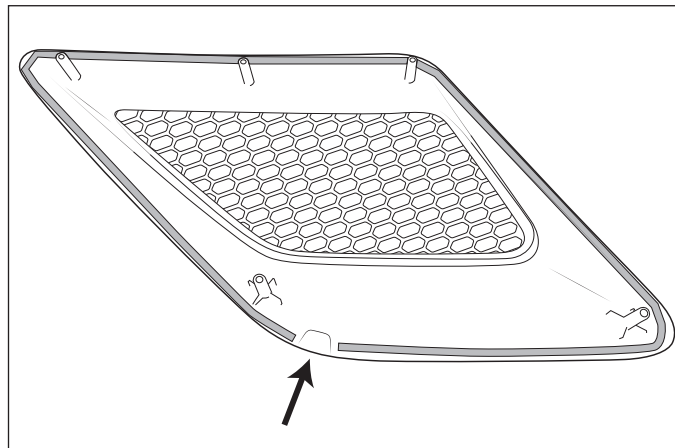

Figure 7
1. Install the supplied foam strips to the underside of the hood bezels as shown (fig. 7). Be sure not to cover the drain opening.